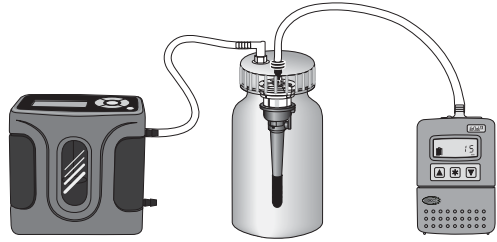

Figure 3. Calibration Train with Jar
Option 1: Using a Calibration Jar (Figure 3)
2. Place DPM Cassette or cyclone/DPM Cassette assembly into an airtight calibration jar that contains an inlet and outlet (SKC Cat. No. 225-111, see Figure 3).